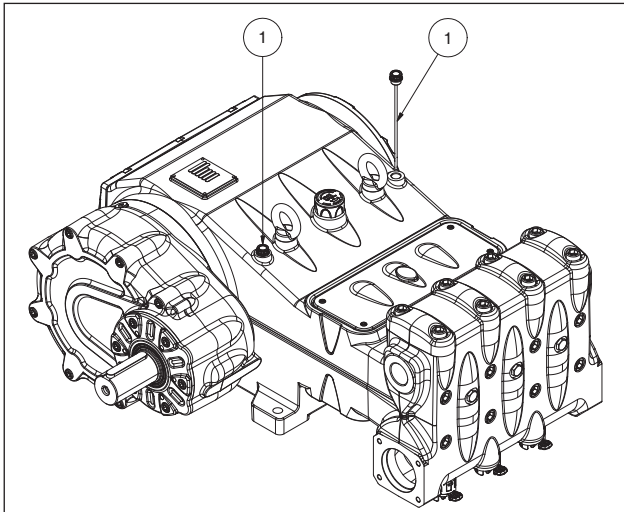

Fig. 8
5. Oil in the pump casing is at the required level, verified with the dipsticks (pos. ①, Fig. 8).